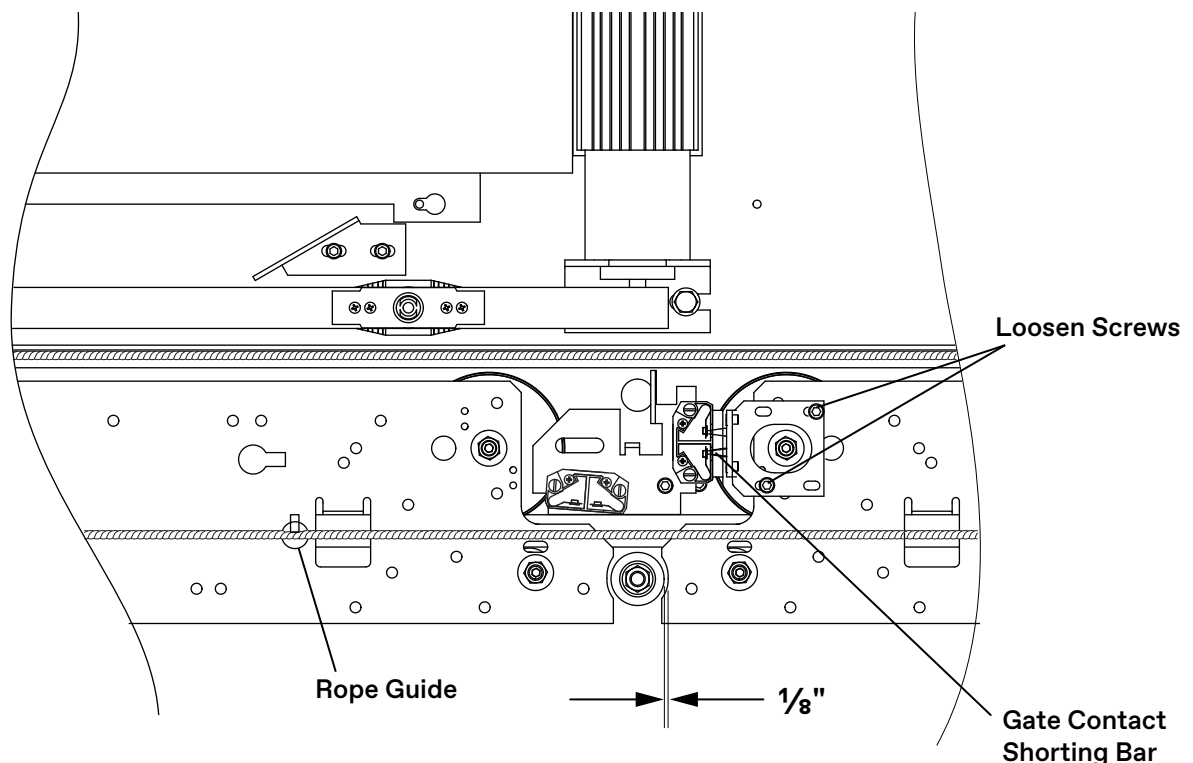

Figure 48 - Adjust Door Contacts/Door Lock Contact (Center-Opening Shown)
2. When the door lock pins are just touching the door contacts, verify that the measurement between the door hanger and the bumper is $\frac{1}{8}$ ". See Figure 48.